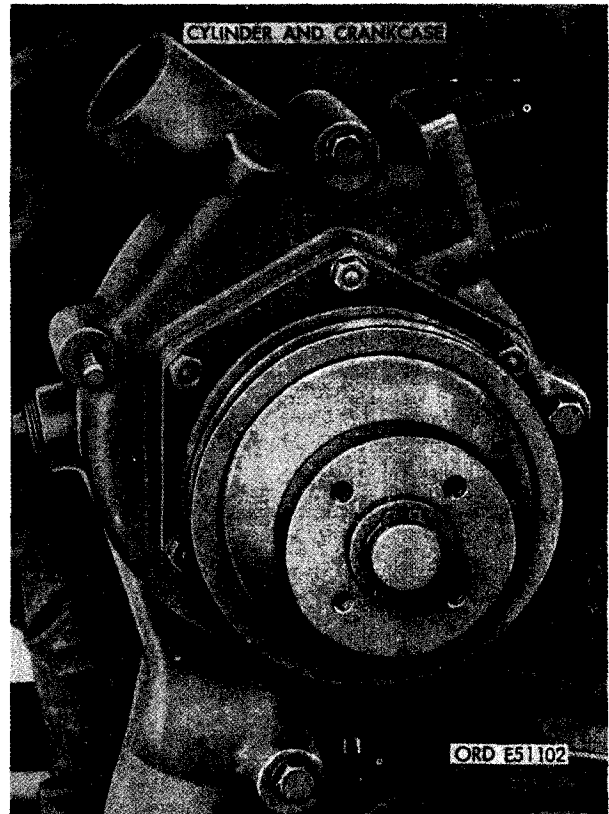

FIGURE 260. REMOVING OR INSTALLING WATER PUMP ASSEMBLY.
- (4) Figure 260. (A) Remove three 3/8 x 3-5/8 cap screws and 3/8-inch lock washers securing water pump assembly to cylinder and crankcase. (B) Remove water pump assembly.